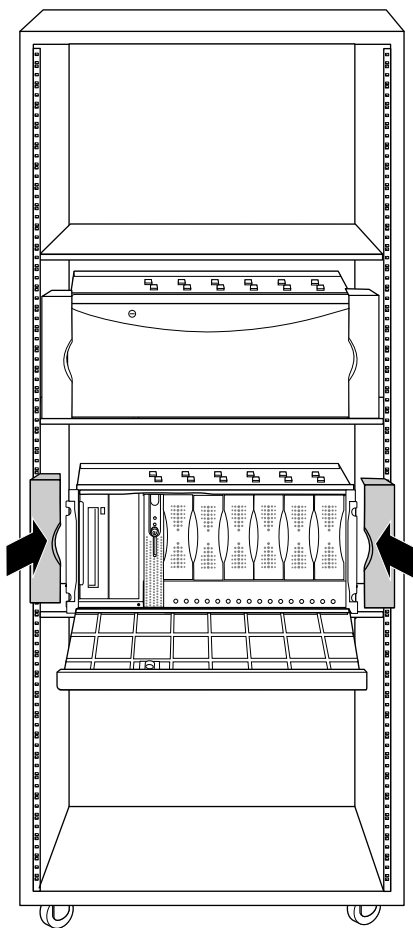

Figure 3-6 Attaching the Plastic End Caps to a Rackmounted Server
5. Attach the plastic end caps to the front of the server to conceal the mounting flange, as shown in Figure 3-6.